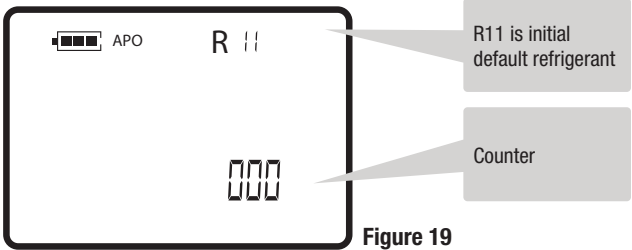

Figure 19
- 2) Press and hold **SET** to enter the Refrigerant Selection Screen (**FIG 19**).
- 2) Press **SET** to enter “**PrO**” menu. The Refrigerant Selection Screen appears (**FIG. 19**).
- 2) Press **SET**. The **Refrigerant Selection Screen** appears (**FIG. 19**).
- 2) Press **SET** to enter “ **PrO**” Screen. The **Refrigerant Selection Screen** appears (**FIG. 19**).